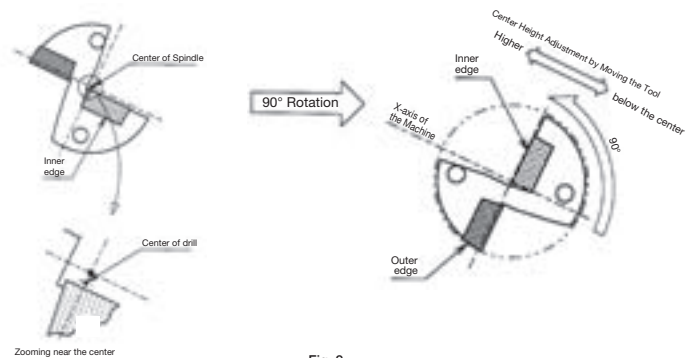

Fig. 9
- ② If the core diameter becomes too large after the above adjustment, install the drill by rotating 90° counter-clockwise as shown in Fig. 9 (outer edge is positioned lower), and adjust the center height by moving the tool in the X-axis direction. (However, this makes it impossible to adjust the cutting diameter)